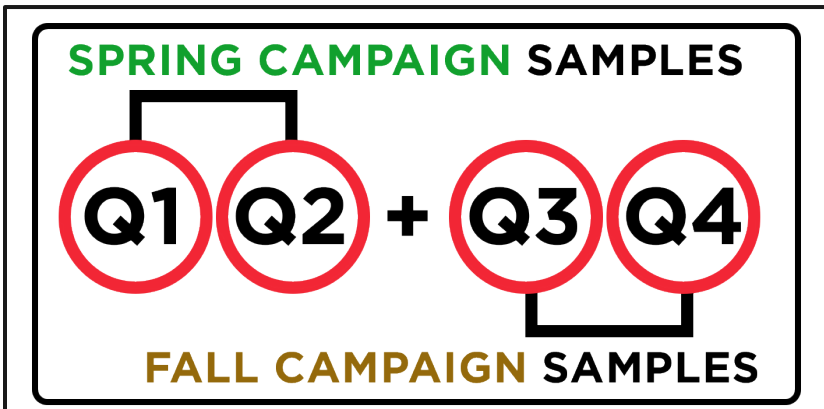

Figure 2. EQA Kit Sample ID Designation by Seasonal Campaign.
- The Result Submission Form will request sample IDs when you enter your results, as detailed below and in Figure 2: